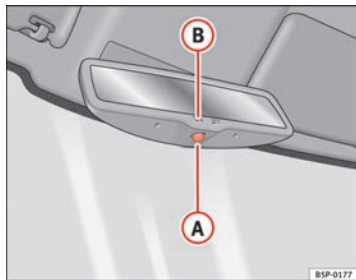

Fig. 85 Automatic anti-dazzle interior mirror.
- Press button **A** ⇒ fig. 85. Indicator lamp **B** goes off.
- Press button **A** ⇒ fig. 85. The indicator lamp turns on.